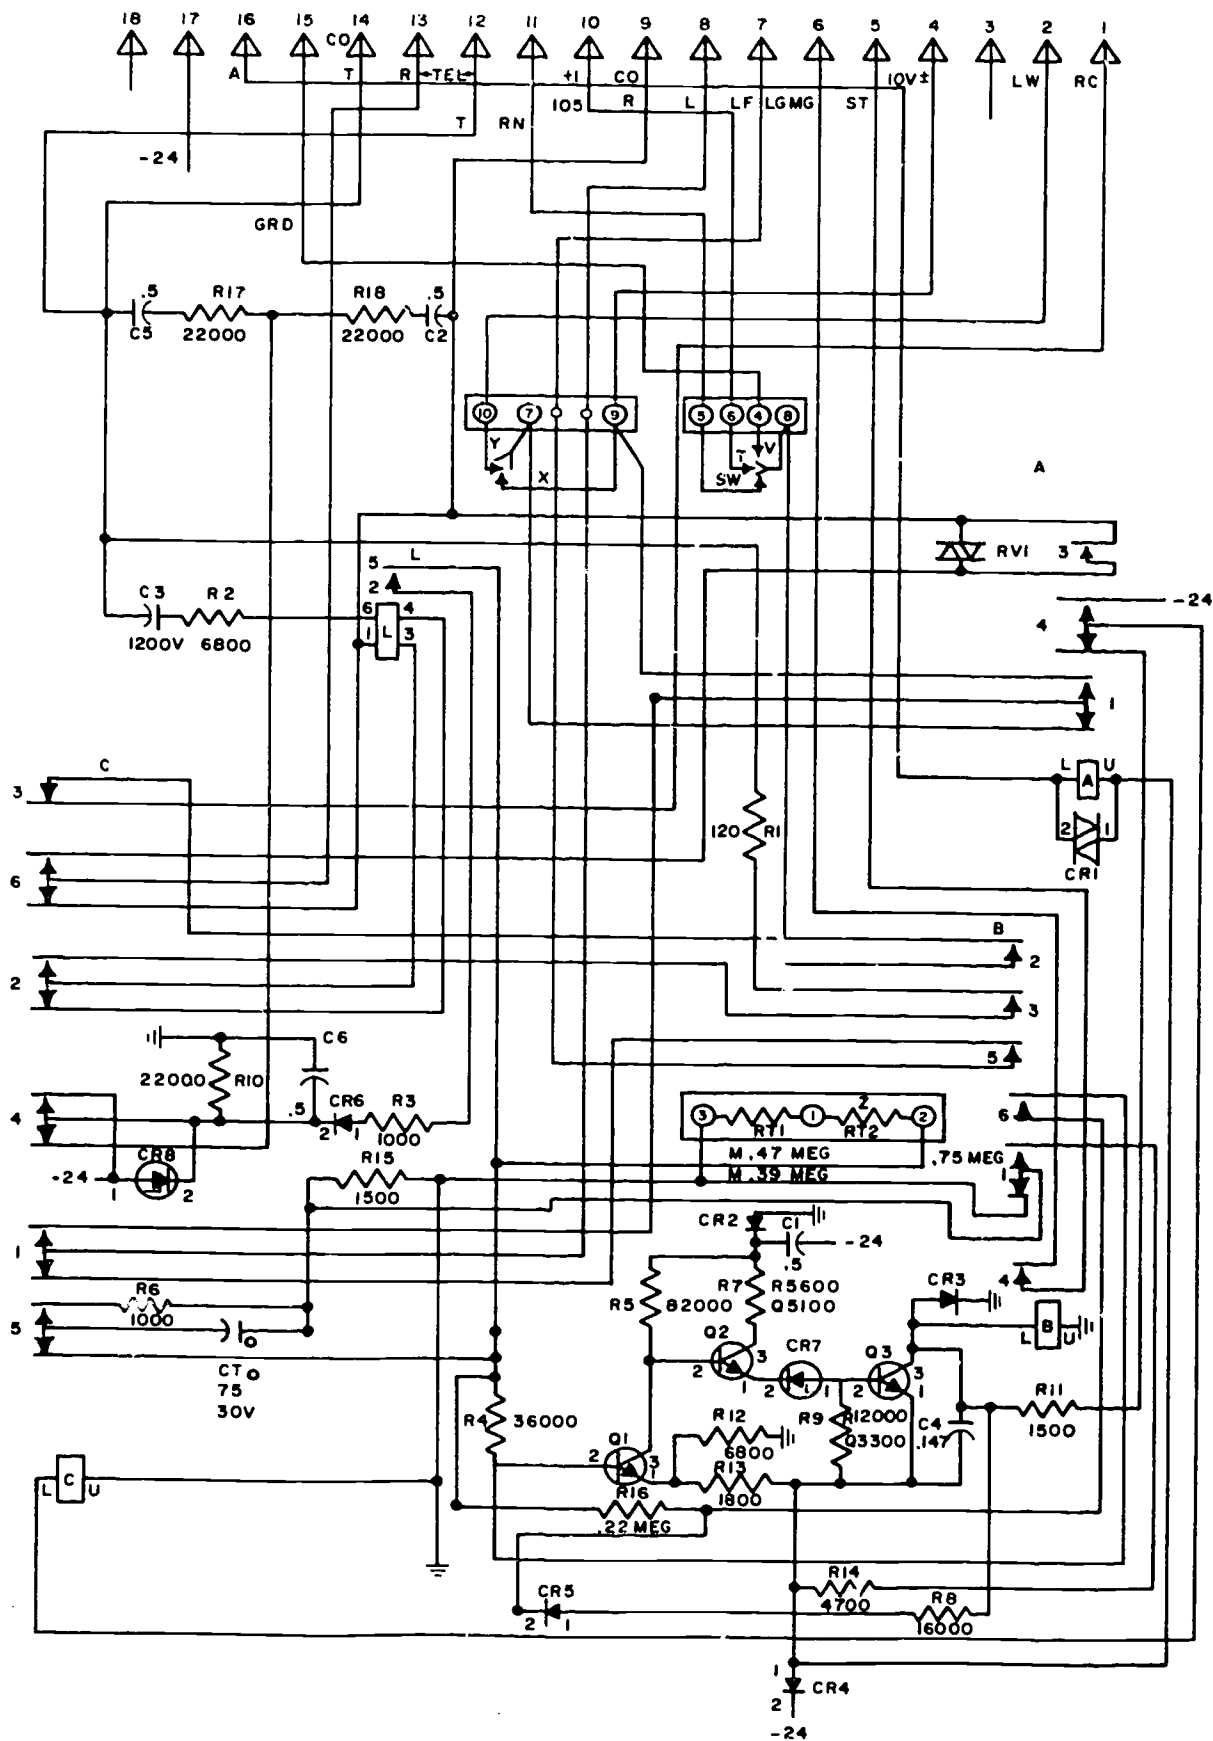
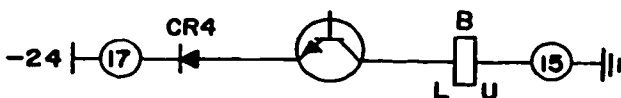
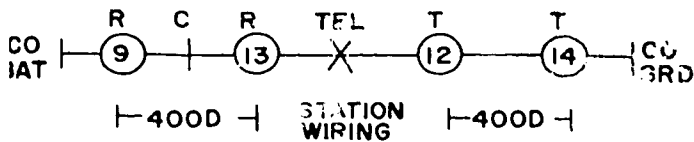

Figure 2-1. 400D KTU.
Figure 2-6. B relay operating circuit.
Figure 2-14. Transmit circuit during power failure condition.
description, you will find figures 2-1 through 2-14 helpful in understanding the individual circuits. You should locate the circuits on figure 2-1, which is a complete schematic drawing of the 400D KTU, the most commonly used CO line unit. We will begin our explanation by analyzing the circuit while idle. In the idle circuit condition, all relays are in the unoperated state, and transistors Q2 and Q3 are off. Q1 is on. All transistors are of the NPN type. Since the 400D is the most commonly used CO line unit, we discuss its circuitry in detail. Refer to the operational sketches and figure 2-1 as you read the circuit description.
been received to charge CT to about -18 volts. This is equal, but opposite to, the base voltage applied to Q1 transistor, and it will stop conducting. When Q1 stops conducting, its collector voltage rises, raising the positive voltage applied to the base of Q2 and Q2 starts conducting. With Q2 conducting, Zener diode CR7 breaks down and Q3 starts conducting, operating the B relay. Figure 2-6 shows the operation of the B relay. Find these circuits in figure 2-1. (NOTE: Relay C does not operate at this time since resistor R11 limits the current through its winding to less than its operate value.)
Power Failure Circuit. During periods when the local power supply is inoperative because of power failure, it is still possible to make an outgoing call. When the hookswitch is closed and the PICKUP button is operated, the connection to the line is metallic, as shown in figure 2-14. Both windings of relay L are connected in series with R2 and C3 across the line, but this has a negligible effect on the conversation. No incoming calls will be signaled unless ringers are bridged across the line. Lights and common audible signals will be inoperative. This is the same condition as would exist in any other key system during power failure. At this time, retrace in figure 2-1 the circuit connections described in this section.
1. On the schematic (fig. 2-1) identify the attachment point where terminals 12 and 14 interconnect.